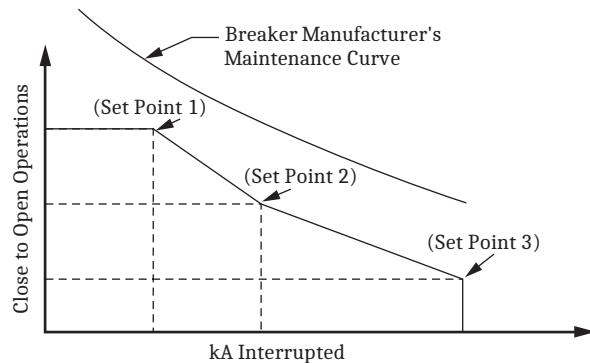

Figure 21 Breaker Contact Wear Curve and Settings
- ▶ Every time the breaker trips, the relay integrates interrupted current. When the result of this integration exceeds the threshold set by the breaker wear curve (*Figure 21*), the relay can alarm via an output contact or the optional front-panel display. With this information, you can schedule breaker maintenance in a timely, economical fashion.